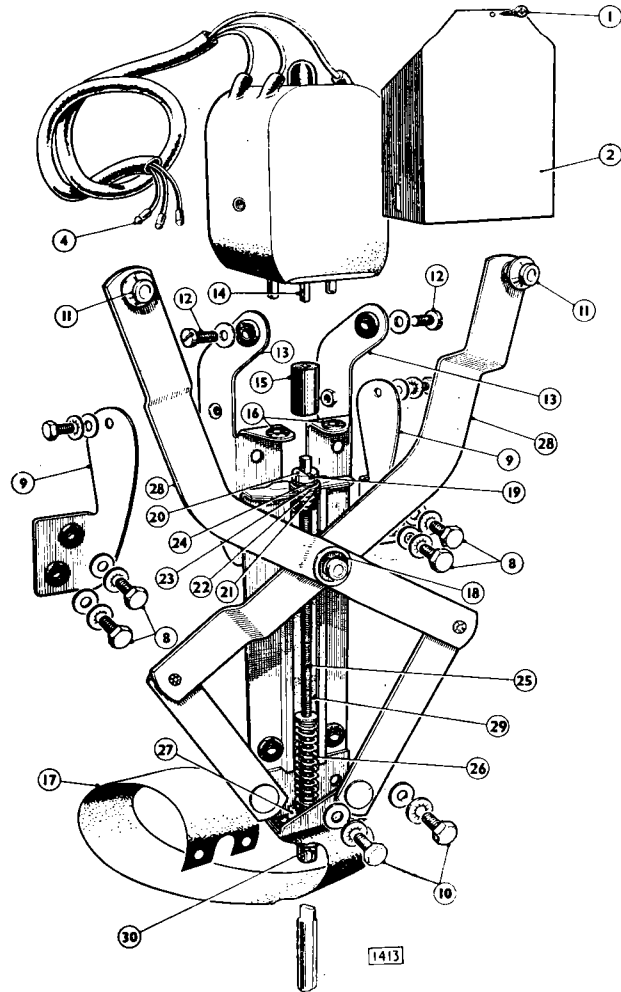

Fig. 53. Exploded view of the window regulator
Important: To ensure that the slotted bottom of the lifting screw (25), Fig. 53, clears the outer door panel and is parallel with the glass, spacing washers are fitted on some doors between the regulator backplate and the bottom mounting bracket. The position of these must be noted for reassembly.
Remove the two setscrews (12) Fig. 53 and plain washers securing the motor to the support brackets. Detach the motor support and raise the motor sufficiently to release the driving shaft (14) from the end coupling (15) and the dowels from the locating holes (16). This will also release the top of the paper oil shield (17) which should be bent downwards out of the way.